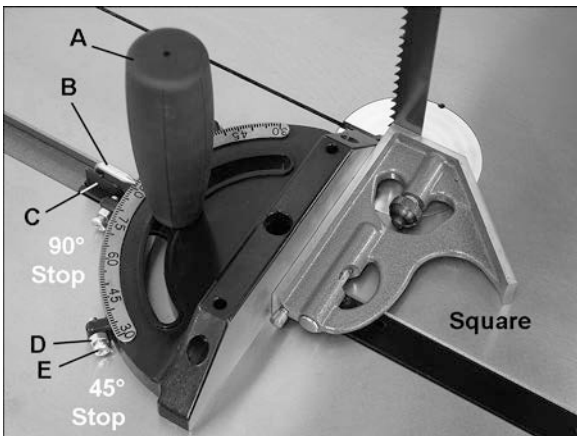

Fig 22
The mitre gauge has positive stops for 90° and 45°. If the stops need adjustment, loosen the lock nuts (D, Fig 22) and adjust the stop screws (E).